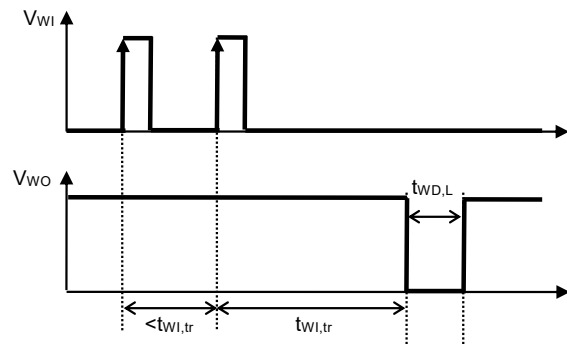

Figure 10 Watchdog Trigger Time
*1. The time when the WO pin continues "L" after the watchdog timer detects a time-out (Refer to **Figure 10**). This value changes according to C_{DLY} .
*2. The time from when the watchdog timer initiates the detection of a trigger signal to when a time-out is detected and the WO pin output changes to "L" (Refer to **Figure 10**). This value changes according to C_{DLY} .